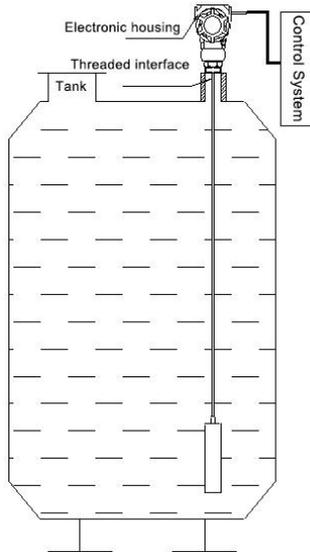

Figure 2 Threaded installation
(1) The high temperature transmitter has an installation structure such as interface thread, flange, etc., which can be flexibly selected according to the site. This example is the $M35 \times 1.5$ thread installation method, as shown in Figure 2.
(2) When the level transmitter is installed, it can be put into water or other liquids, and the cable is led out from the wiring terminal in the shell to the display instrument, secondary instrument or control room.
(3) Choose a place that is easy to operate and maintain for installation.
(4) Install as far away as possible from the vibration source.
(5) When the level transmitter is installed, the probe should sink into the bottom of the container.
(6) The probe should be placed in the water vertically, and the angle with the vertical line should not exceed 30 degrees.
(7) If there are many impurities in the liquid medium, it is recommended to select a filter screen cover.
(8) The cable part on the ground needs to be protected or elevated.
(9) If used in moving water, the level transmitter should be fixed.
(10) The probe should be cleaned regularly to avoid blockage of the pressure inlet.
(11) The accumulation of water in the capillary tube will cause inaccurate measurement and unstable output. You can take out the gas collecting bucket regularly and drain the capillary tube to eliminate the fault.